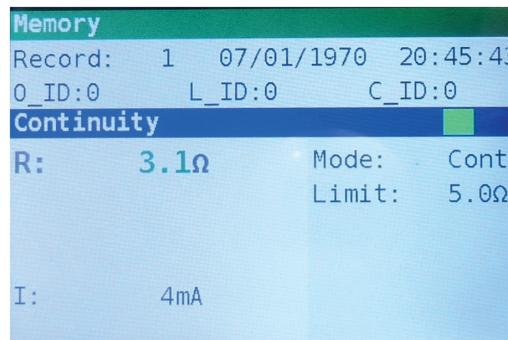

Figure 7.4: Saved results
**Step 4** To store the result of last measurement, press **TEST** key. The following will be displayed (Figure 7.4).